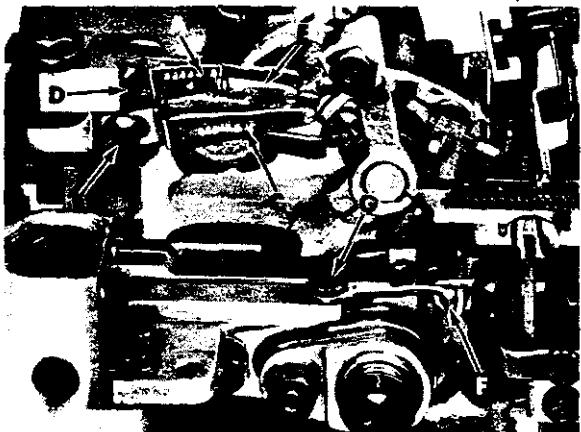

Fig. 25
The auxiliary upper looper thread guide (A, Fig. 25) should be centered in its adjusting slot and set slightly above a horizontal position. Loosen screw (B, Fig. 25). Center lower looper thread eyelet (C) in its adjusting slot and set eyelet in a horizontal position.